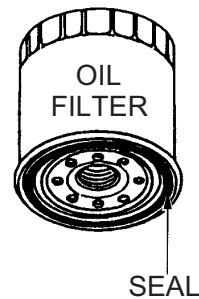

Figure 18. Oil Filter
5. Replace the engine oil filter (Figure 18) every 200 hours.
6. Be sure to coat the seal of any new oil filter with clean engine oil (Figure 18).